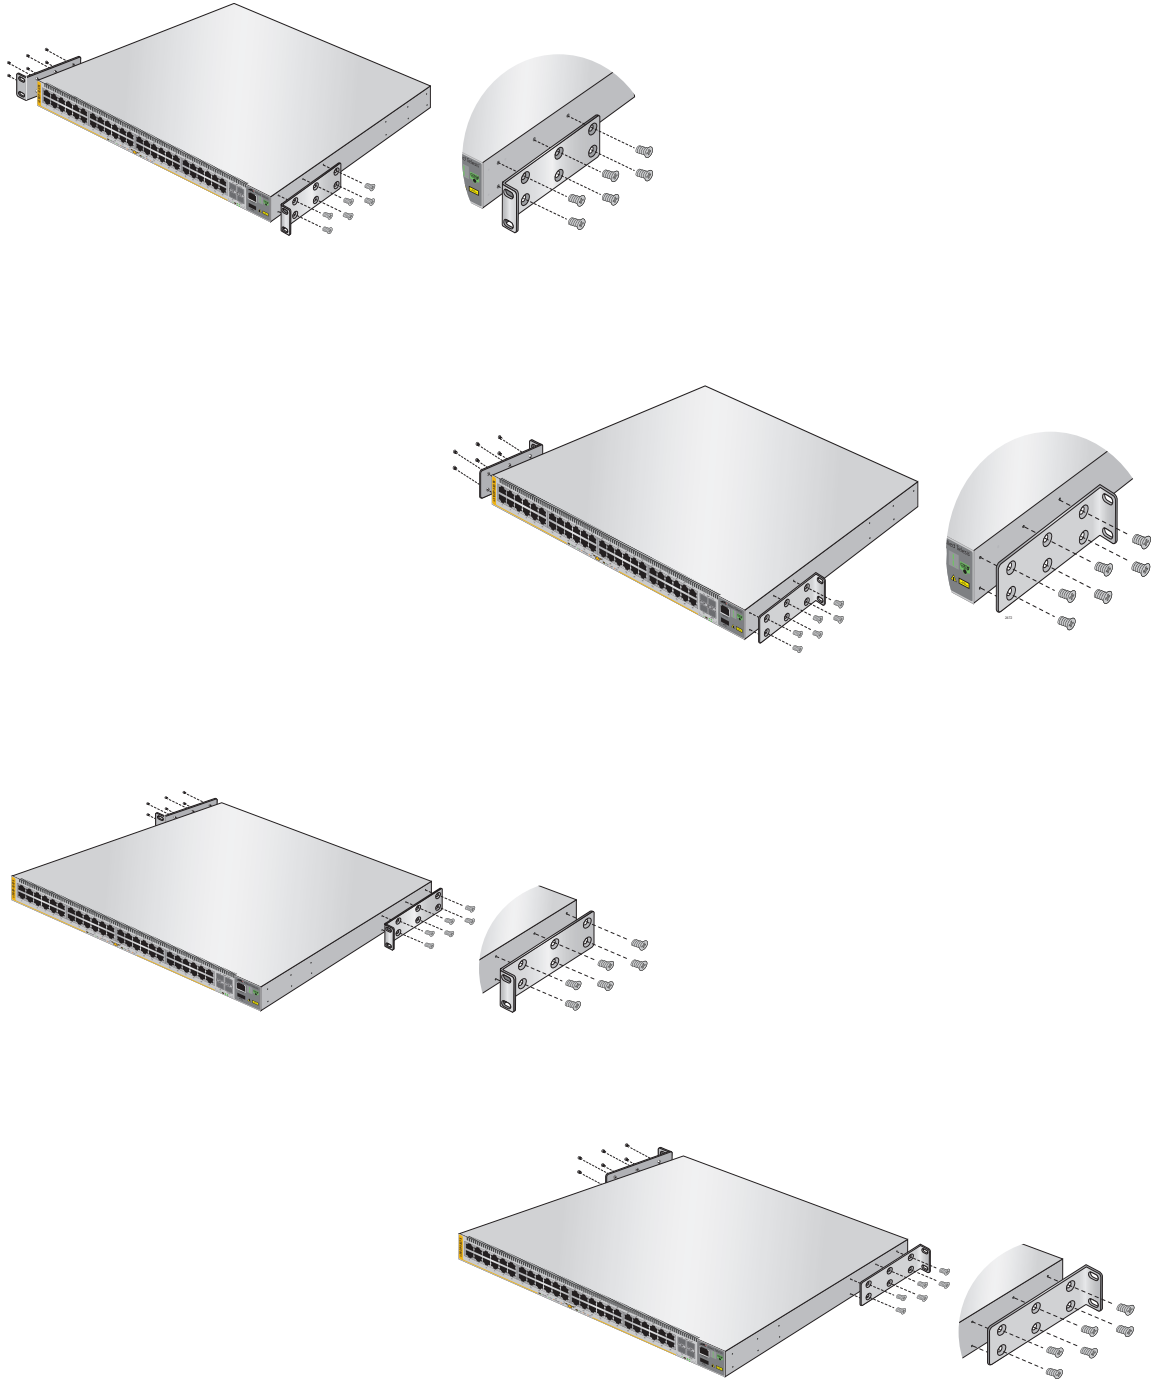

Figure 28. Attaching the Equipment Rack Brackets
4. Attach the two rack mount brackets to the sides of the switch using the bracket screws included with the unit. Figure 28 on page 69 illustrates the four possible bracket positions.